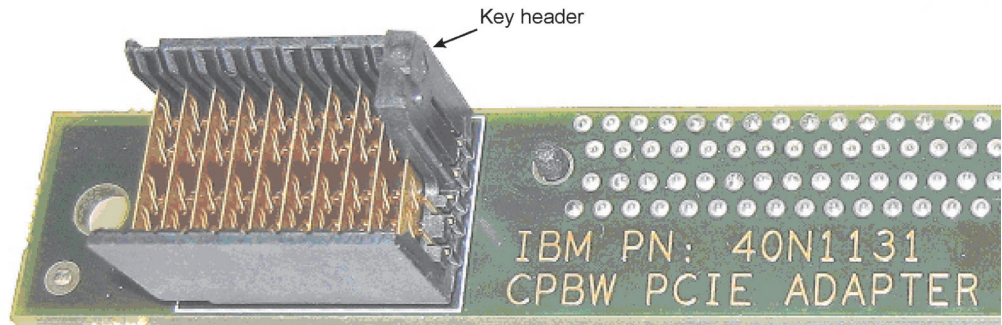

Figure 14. PCI Express adapter card with installed key header
7. Hold the PCI Express adapter card so that you look top down onto the PCI-Express connector J1. Place the second key header so that it covers the two upper rightmost contacts, see Figure 14.